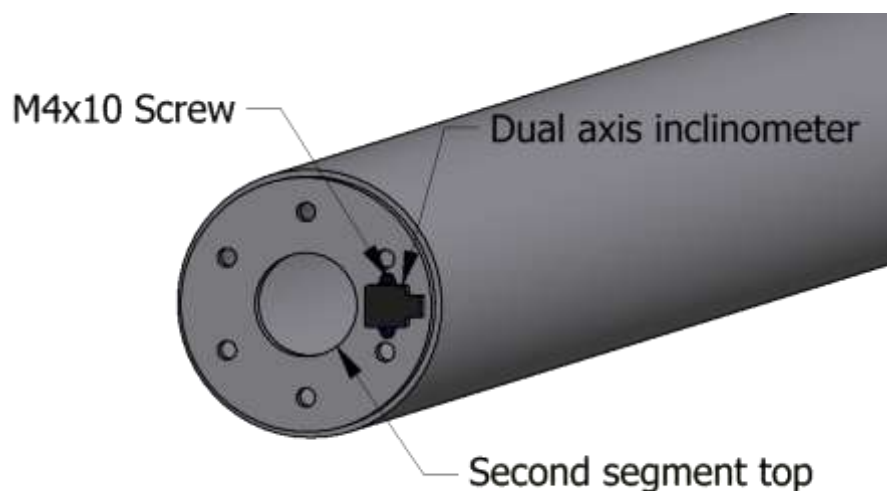

Figure 25 – Placing the inclinometer
1. Place the dual axis inclinometer on top of the tower 2nd segment top and fix them together with two M4 x 10 screws placed into the threaded holes in the 2nd segment top (see Figure 25). ! **IMPORTANT:** Make sure that no small objects get caught between the sensor and the 2nd segment top. This will considerably alter the measurement results and turbine performance.